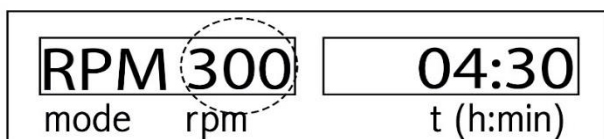

Figure 30: Setting the Speed
2. In this case, the speed's section becomes flashing and the RPM word appears on the right display. (figure 30)